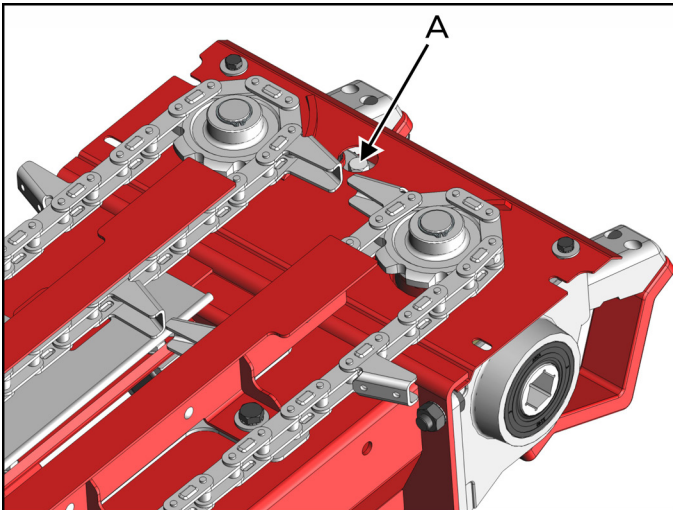

fig. 10
1. Thoroughly clean around the stopper (A) (fig. 10), located on the upper part of the box, then removing it with **the utmost care so that no dirt enters through the bore**;